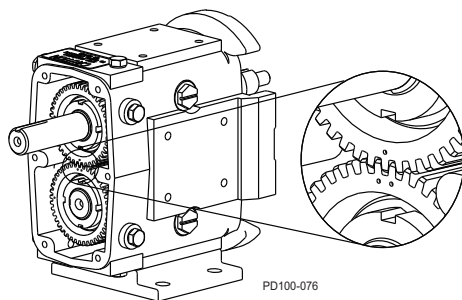

Figure 214 - Timing Gear Marks
- Slide the short shaft gear onto the short shaft. The short shaft gear has two punch marks on the gear. Straddle the single punch mark of the spur drive gear with the two punch marks on the short shaft gear (Figure 214).